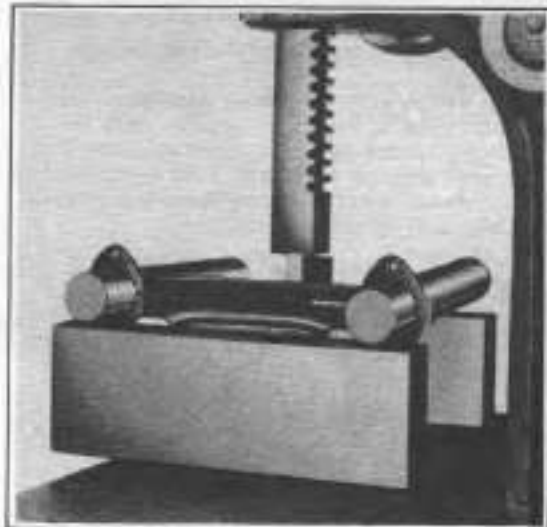

Figure 2-49. Correcting Bracket Bow
1. Insert the two 7-5/8 in. x 12 in. bars in fork bracket and secure with two clamping studs. Sometimes the bracket is so badly bent that the bars cannot be inserted. In this case, press the bars into place with an arbor press, then press on the front edge of bracket to correct the "bow" distortion as shown in Figure 2-49.
Reference to vertical and horizontal centerlines applies to bracket and fork stem as positioned on arbor press (see Figure 2-49).